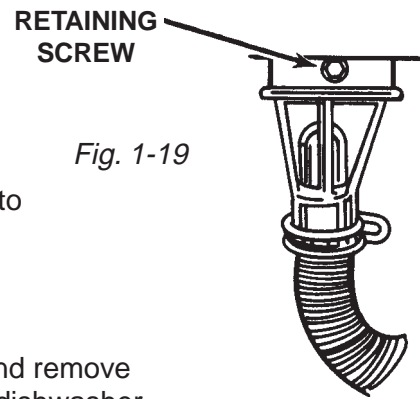

Fig. 1-19
3. Remove the Hex-head screw securing the check valve to the tub support. (Fig. 1-19)